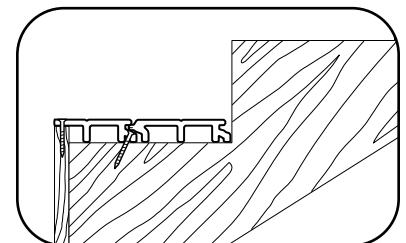

Fig. 22
- Fasten the remaining stair tread plank(s) into place by slipping the "tongue" of the stair tread plank into the "groove" of the previous stair tread plank (Fig. 22). There will be a gap of up to 1/4" between the stair tread planks. You will be able to see part and/or all of the weephole. **Do not force the stair tread planks together.**